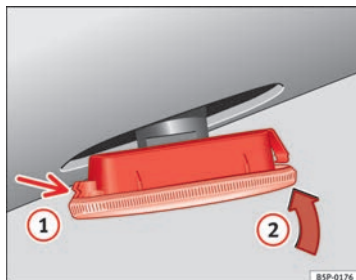

Fig. 165 Side turn signals
- First fit the turn signal in the opening in the chassis, fastening the tabs **①** ⇒ Fig. 165, and then fit in the bulb as shown by the arrow **②** ⇒ Fig. 165. ■